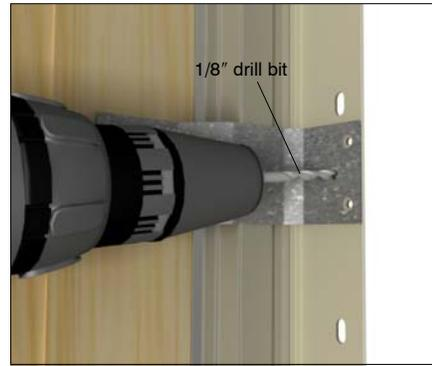

Figure 2: Drill through clip and nailing fin.
1. Using the screw holes in the clip as a guide, drill through the nailing fin with a 1/8" drill bit. This will give you the location of the screw holes when you fasten the unit to the rough opening. See figure 2.